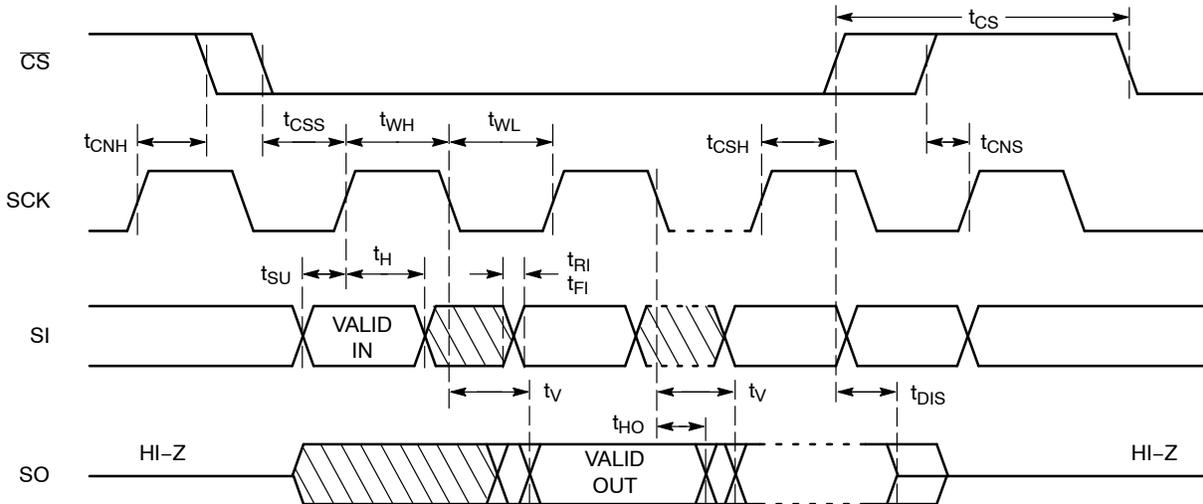

Figure 2. Synchronous Data Timing
7. **All Chip Select (CS) timing parameters are defined relative to the positive clock edge (Figure 2). t_{CSH} timing specification is valid for die revision C and higher. The die revision C is identified by letter "C" or a dedicated marking code on top of the package. For previous product revision (Rev. B) the t_{CSH} is defined relative to the negative clock edge.**
After a high to low transition on the CS input pin, the CAT25080/160 will accept any one of the six instruction op-codes listed in Table 9 and will ignore all other possible 8-bit combinations. The communication protocol follows the timing from Figure 2.